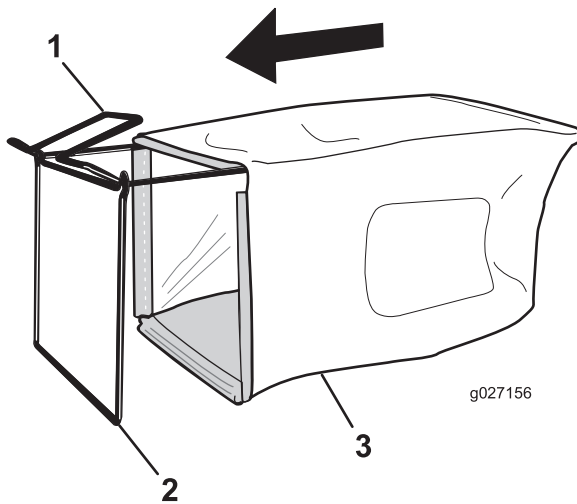

Figure 6
1. Slip the grass bag over the frame as shown in Figure 6.
- Note:** Do not slip the bag over the handle (Figure 6).